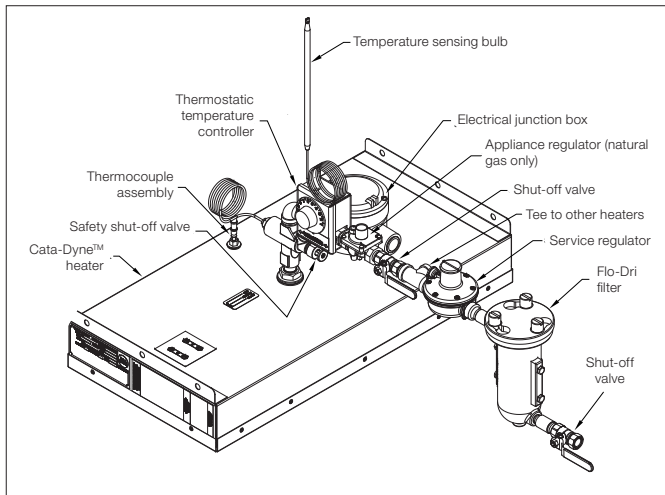
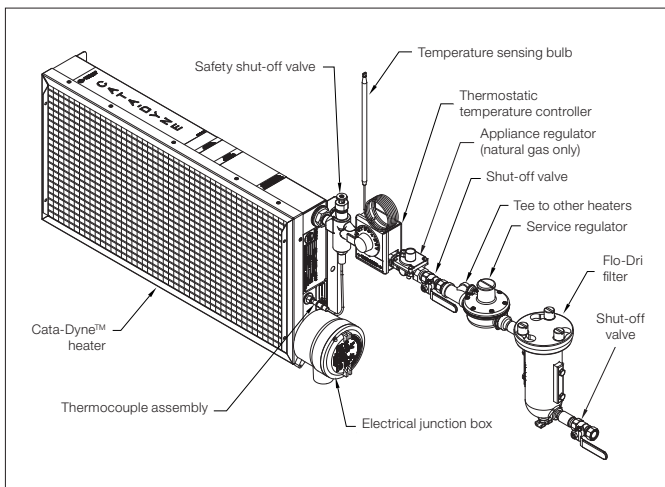

Figure 2 – Typical natural gas Cata-Dyne™ Heater installation
Figure 3 – Typical natural gas installation (MKII model only)
6. For installation, see Figure 2, page 6 for typical Cata-Dyne™ Heater and Figure 3, page 6 for natural gas MKII model.